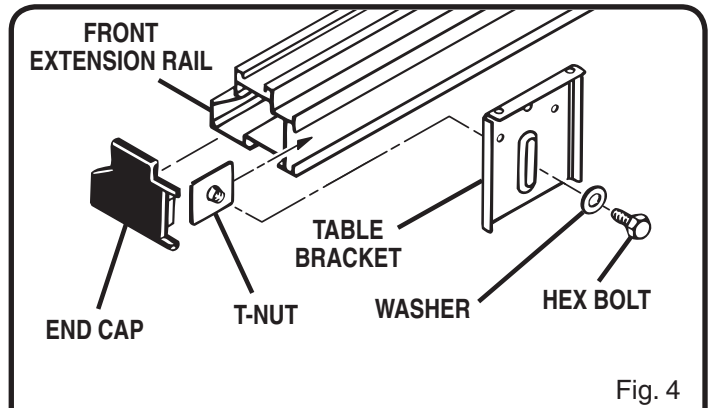

Fig. 4
- Remove end caps from right end of front rail on your BT3100/BT3100-1 table saw. See Figure 4.
- Space table brackets on each of the four corners so that they are approximately 6 in. from the ends of extension rails. See Figures 4 and 5.